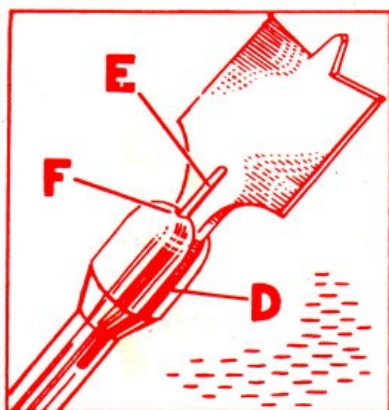

FIG. 2
2. Insert size cutter to be used into slot (d) so that raised rib on cutter's threaded end (e), slips into matching groove (f) on one side of the slot in the shank's head (Fig. 2).